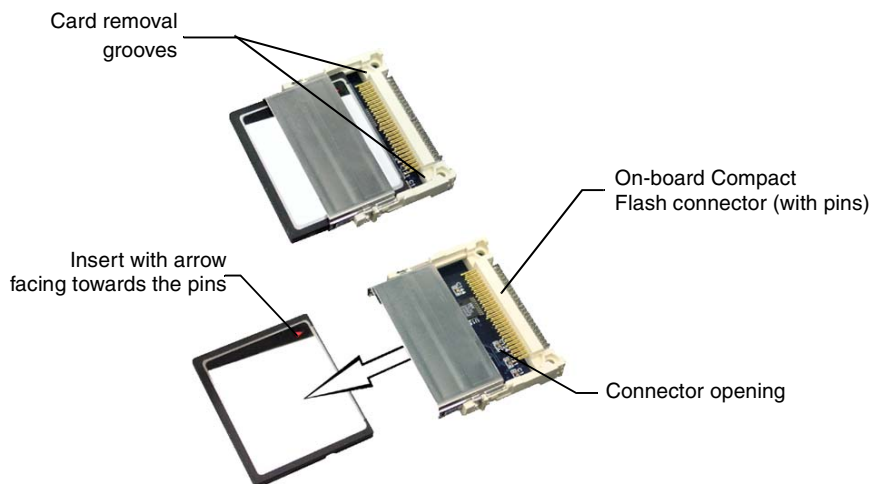

FIG. 21 Removing/installing a Compact Flash Memory card
2. Insert the tip of a grounded flathead screwdriver into one of the card removal grooves (located on either side of the card), and gently pry the card out of the slot (FIG. 21). Repeat this process on the opposite card removal groove. This alternating action causes the card to "wiggle" away from the on-board connector pins.